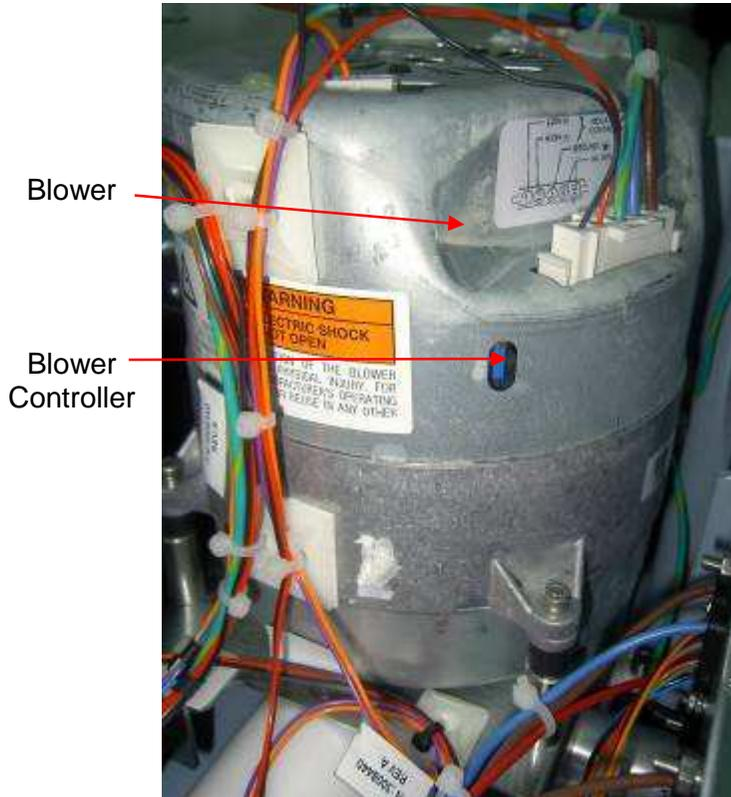

Figure 124
1. Alpha units have different Blower with an embedded controller (Figure 124).